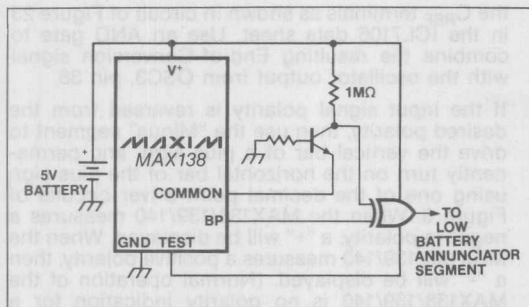

Figure 6. Low Battery Detector and LCD Segment Drive
Since the voltage between Common and V^+ is between 2.95V and 3.15V until the voltage between V^+ and V^- falls to less than 4V, a simple low battery detector can be made using transistor voltage detector as shown in Figure 6. When Q1 is off the Low Battery segment is driven in phase with the backplane and is off. When Q1 turns on, the Low Battery LCD segment becomes visible. Q1 turns on when the voltage at the base of Q1 is one base-emitter voltage more positive than COMMON voltage.
4. If the input signal polarity is reversed from the desired polarity, then use the "Minus" segment to drive the vertical bar of a plus sign, and permanently turn on the horizontal bar of the plus sign using one of the decimal point driver circuits of Figure 6. When the MAX138/139/140 measures a negative polarity, a "+" will be displayed. When the MAX138/139/140 measures a positive polarity, then a "-" will be displayed. (Normal operation of the MAX138/139/140 is no polarity indication for a positive input, and a "-" sign for a negative input.)